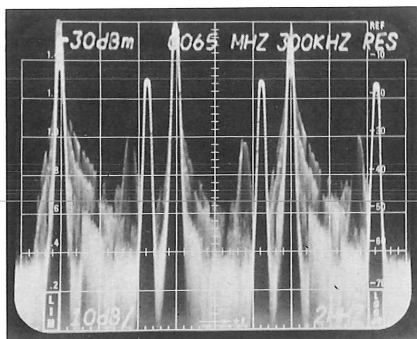

Figure 1-2. Channels 2, 3 and 4.
6. Slowly turn the BASELINE CLIPPER clockwise to clip as much of the grass at the bottom of the screen as desired. Your display should look similar to that shown in figure 1-2.
EXAMPLES: Picture carrier for channel 2 in figure 1-2 is: